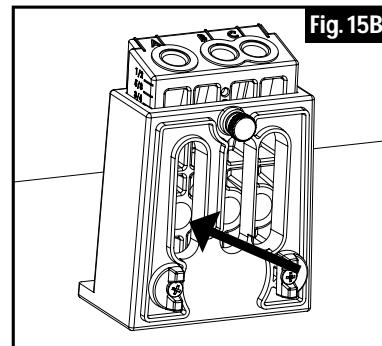

Fig. 15B
**Portable Base Wood Chip Extraction** (Fig. 15B)